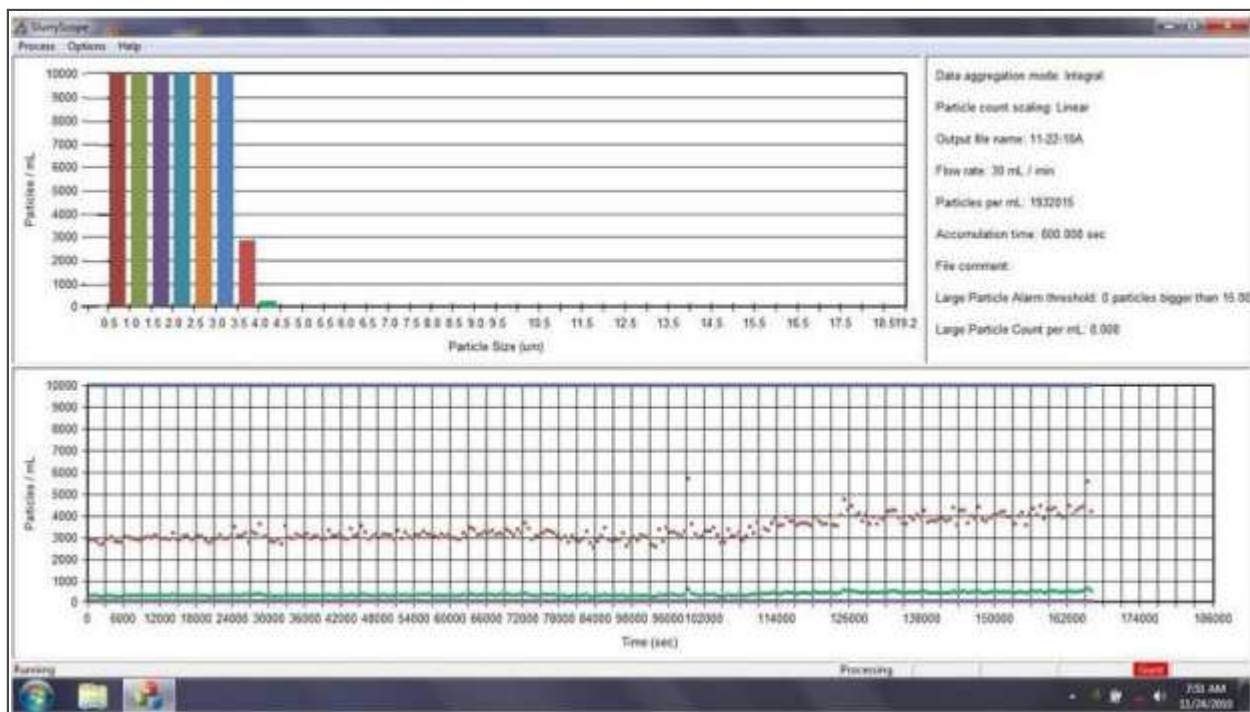

Figure 2. LPC cutoff ceria monitor >40hrs (SlurryScope data of undiluted measurements of slurry LPC). SOURCE: Vantage Technology
IC manufacturers need CMP slurry to perform consistently during the wafer polishing process, and to that end, they are pushing for improved slurry metrics. Only recently, new particle measurement units been developed that can monitor particles of undiluted slurry. In the past year, metrology system providers have developed new techniques that enable undiluted testing of slurries for both the LPC (i.e., >1.0µm) and the mean particle size of the slurry abrasives. Mean-sized particles -- usually well below 100nm -- are the slurry's primary abrasives, with a tight distribution to control removal rates (RR). The LPC is associated with defects and scratching, because it is not considered to be part of the intended slurry composition, but can impact wafer polishing. Figures 2 & 3 show slurry particles in the LPC range measured down to a cutoff point with undiluted testing.
Figure 2 shows a graph of undiluted ceria slurry with the cutoff point where the slurry LPC reaches zero. The bars in the upper graph show particle size bins from 1.0µm and above, with the last two bins of 3.5-4.0µm (brown) and 4.0-4.5µm (green). The bottom graph is a time-line display (with the beginning of the test -- time 0 at far right) of those two size bins over the >40 hour period of monitoring. The improvement or reduction in both size bins was the result of a new filter installation in slurry delivery line (note the drop in counts for both colors).